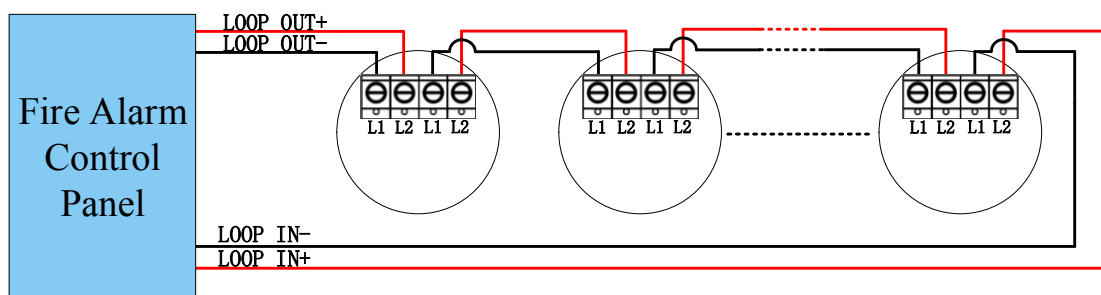

Fig.3
- (3) Address coding mode: Please connect the coder and Sounder Beacon correctly according to the wiring in Fig. 3, L1L2 is non-polarity connection, set the coder to coding function, compile the correct address code, press the ‘OK’ key to complete the address coding setting. (Note: For detailed operation, please refer to the encoder manual)
- Cut off the Control Panel working power, according to the construction drawings, firstly connect all the bases correctly in the way of figure 3;
- (1) Please note the terminal markings when installing and wiring.
- (2) It is not permitted to have the same address between products in the same Loop, otherwise the system will not work properly.
- (3) When installing the Sounder Beacon, please note that there should be no objects in front of the siren that can block the flashing light or obstruct the sound.